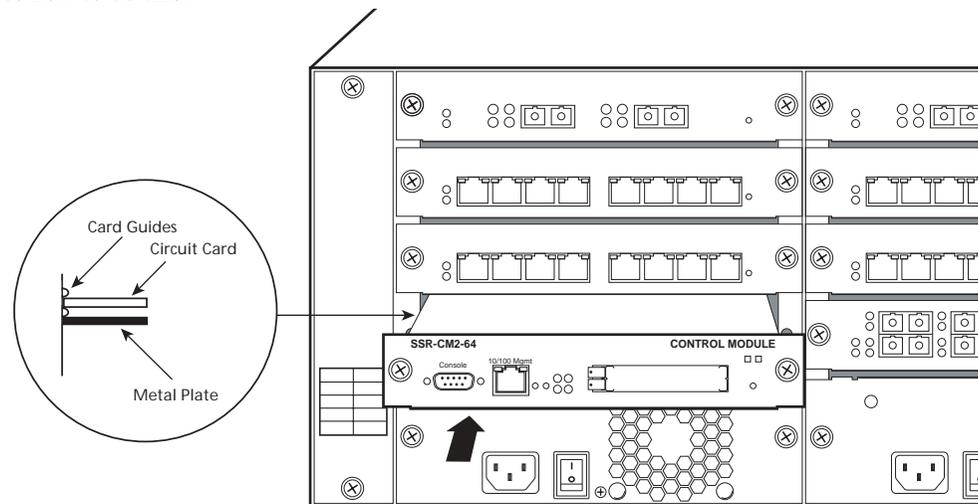

Figure 30. Installing a Control Module
Figure 30 shows an example of how to install a control module. The procedure following the figure describes how to do this.
Note: Make sure the circuit card (and not the metal plate) is between the card guides, as shown in Figure 30. Check both the upper and lower tracks.
- Note:** Make sure the circuit card (and not the metal plate) is between the card guides, as shown in Figure 30 on page 65. Check both the upper and lower tracks.